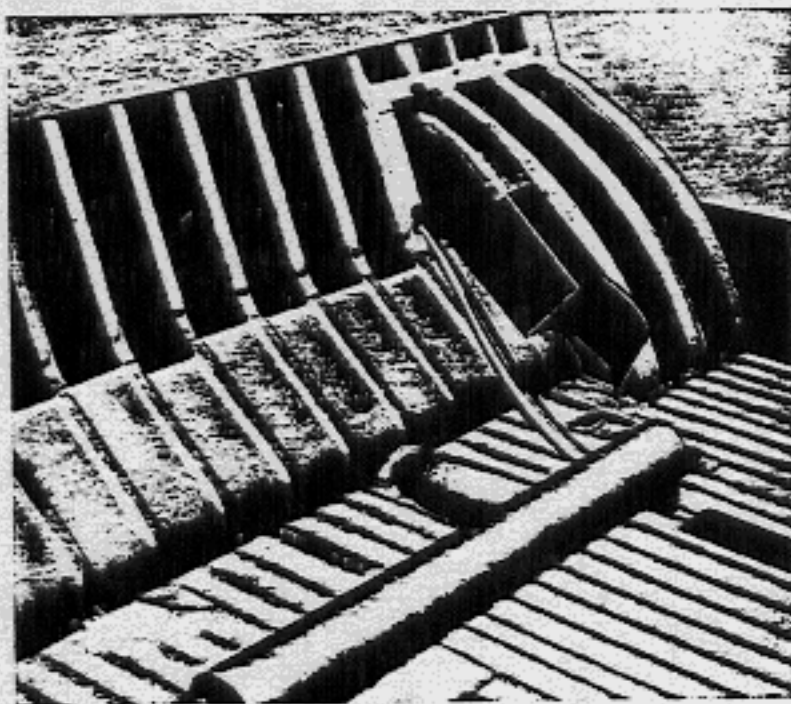

Fig. 8
- 9 - Fit a grommet into the large opening and insert the square warm air outlet into the opening from inside the vehicle. Mark off and drill 3.8 mm holes at top and sides and secure the outlet with 4.8 mm tapping screws (Fig. 8).